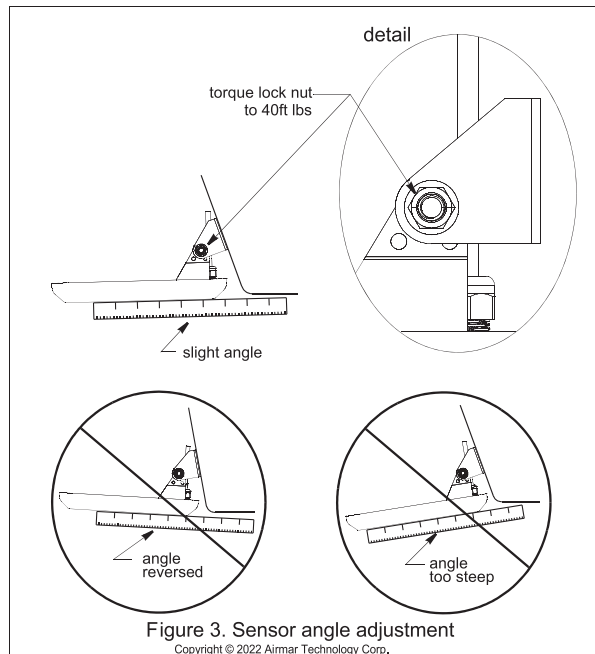

Figure 3. Sensor angle adjustment
2. With the transducer in the operational position, use a straight edge to sight the underside of the transducer relative to the underside of the hull (Figure 3). The trailing edge of the transducer should be 1–6mm (1/16–1/4") below the leading edge. When you are satisfied with the position of the transducer, use a torque wrench to tighten the lock nut to 40ft lbs.
- a. Increase the sensor’s angle in the water. Review “Checking the Sensor Angle & Projection: and see Figure 3.